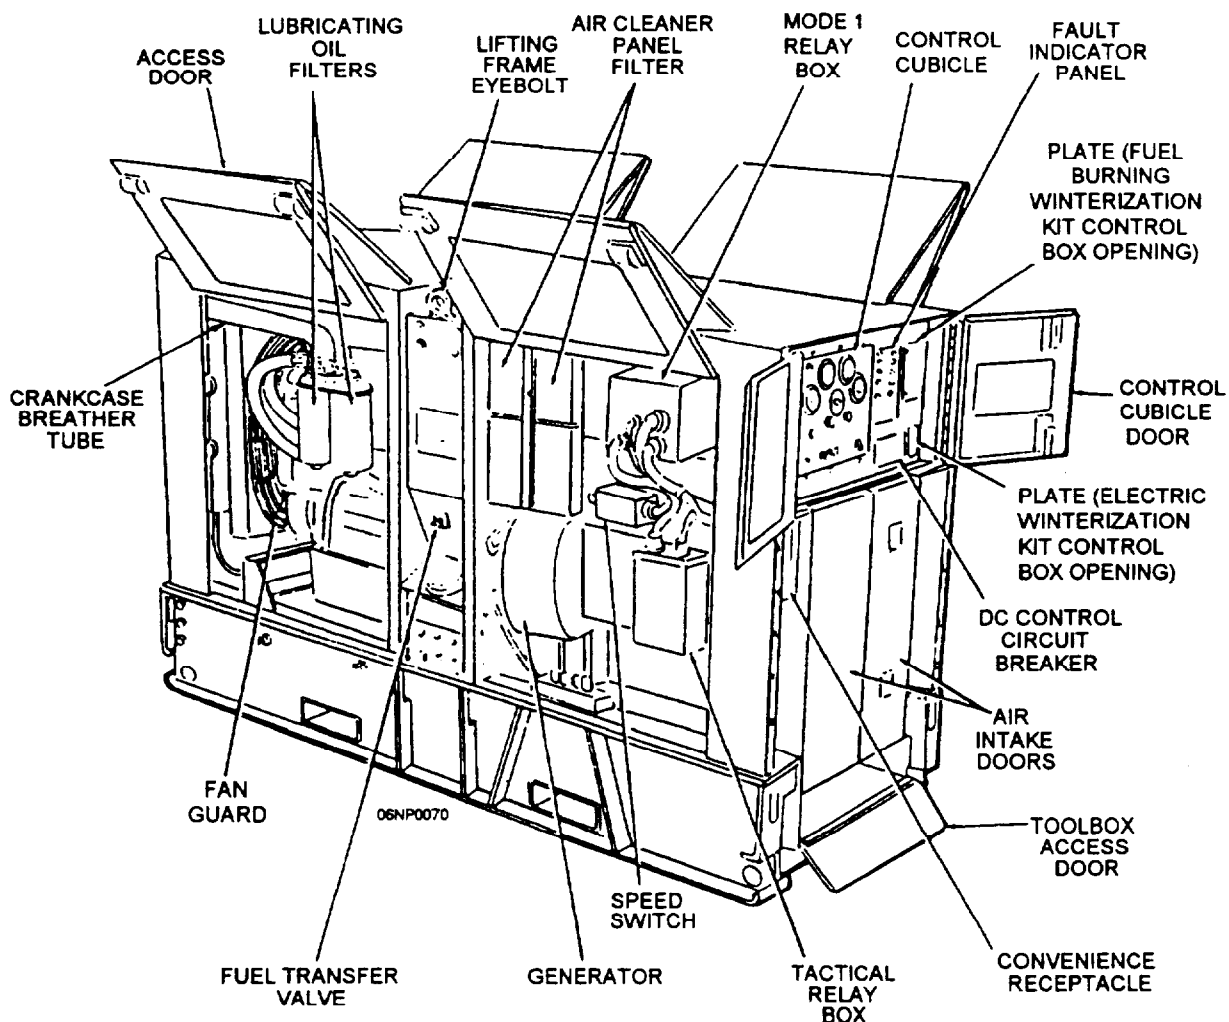

Figure 3-15.—Generator set, left rear, three-quarters view.
5. Air intake system. Check the air intake system cleaner for excessive dirt (see AIR CLEANER PANEL FILTER, fig. 3-15); remove and clean the air cleaner panels as required. Check the air intake louvers and radiator grille for freedom of motion, and ensure that they are not clogged.
11. Set controls and instrumentation. Inspect meters and gauges at the control cubicle (fig. 3-15) for bent pointers, broken glass, unreadable dial faces, and restricted movement of pointers. Clean gauges and meter faces with a lint-free cloth.
1. Open the CONTROL CUBICLE and AIR INTAKE DOORS (fig. 3-15). Close the HOUSING PANEL (ACCESS) DOORS,
2. Set the FUEL TRANSFER VALVE (fig. 3-15) to the desired source of fuel, preferably the auxiliary tank, if it is connected.